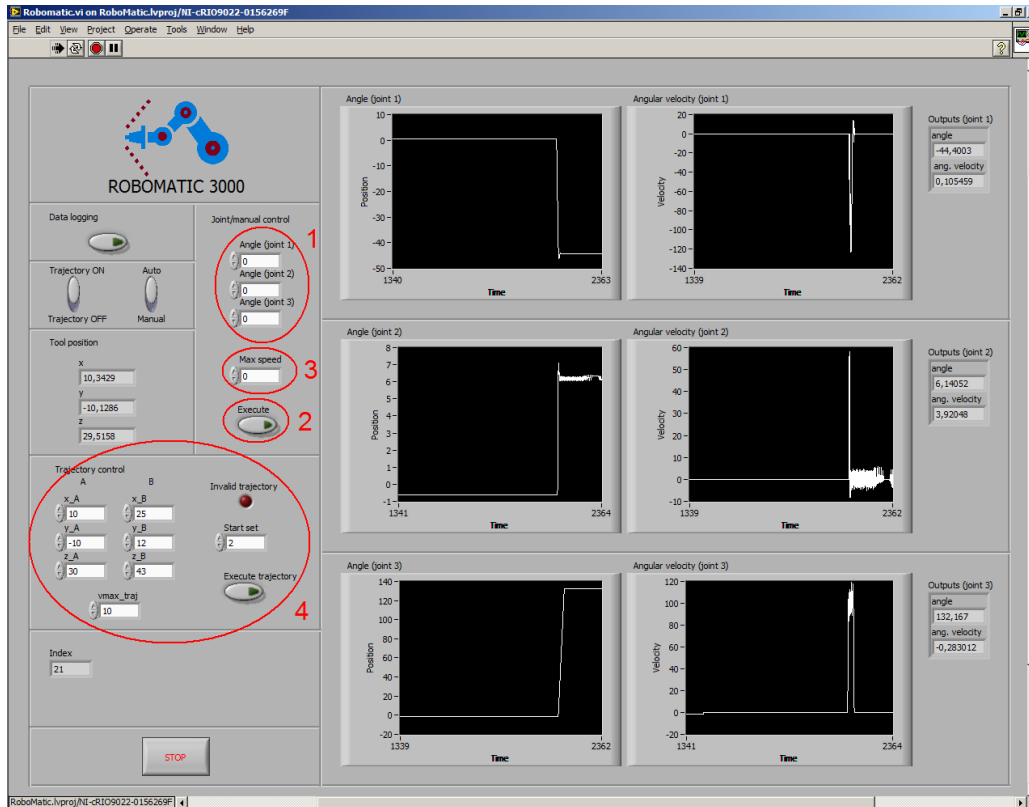

Figure 12: The user interface in LabView.
To open the user interface double click on Robomatic.vi in the Project Explorer. In Figure 12 you can see that each axis has a graph and an indicator showing its angle and angular velocity. There is also an indicator showing the current tool position. Besides this there are controls for the manual and automatic mode. Note that saturations on the joint angles are implemented, so that the robot does not collide with itself.
In the manual mode you can control each axis separately. Set the desired angle (1) in Figure 12 and press enter, the robot will then move the axis with reduced speed. This mode is mostly to confirm that the axis can move properly.
If you wish to control the target joint angles you can select the trajectory off mode. Set the desired target angles (1) and the angular velocity (3) in Figure 12, then press the execute button (2) in Figure 12.
If you wish to control the tool in a straight line from one point to another you can set the trajectory to ON. Note that you have to enter all the information under Trajectory control, (4) in Figure 12, before you start the program. Enter the desired start position and target position. For each position reachable for the robot there are theoretically 4 ways to set the angles for that position. In the Start set box you can choose what set of angles you want to start with. In the v_{max}_traj you can choose the desired maximum velocity.